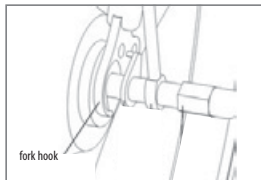

Fig. 76. Basket support installation (fork hook)
1. Install the basket support onto the front wheel axle (with the profiled arch on the side of the lighting set) in the following order: hook washer, basket support, nut, Fig. 76.